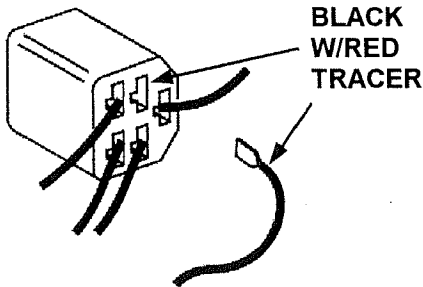

FIGURE 22 IGNITION SWITCH
4. (See figure 22) Remove the (black w/red tracer) wire from the ignition switch connector. Use a small screwdriver (1/16" blade) insert into the front of the connector to release the locking tab.